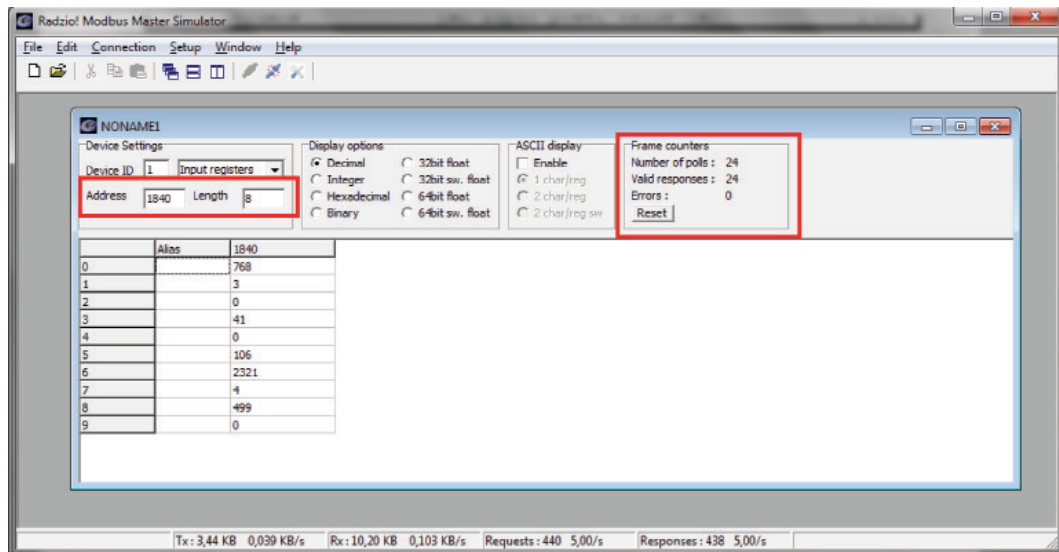

Fig 11: Modbus Example
12. Access the desired addresses at the Modbus sheet in Radzio (Fig 11) as described in the Modbus document (Fig 12).
If you only see zeros or bad values, check the Frame counter (Fig 11) to be sure that you receive “Valid responses”. If not, the settings may be wrong.